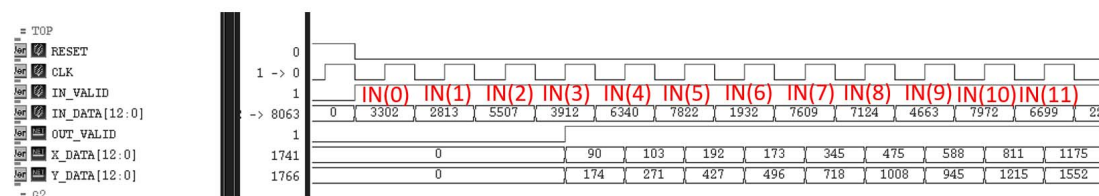

Figure 3: Input timing diagram
6. When IN_DATA is valid, the IN_VALID signal is pulled high. The input timing diagram for the data input (IN_DATA) is shown in Figure 3.